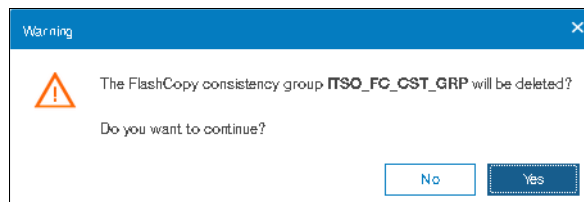

Figure 10-67 Warning window
4. The Warning window opens, as shown in Figure 10-67. Click **Yes**.